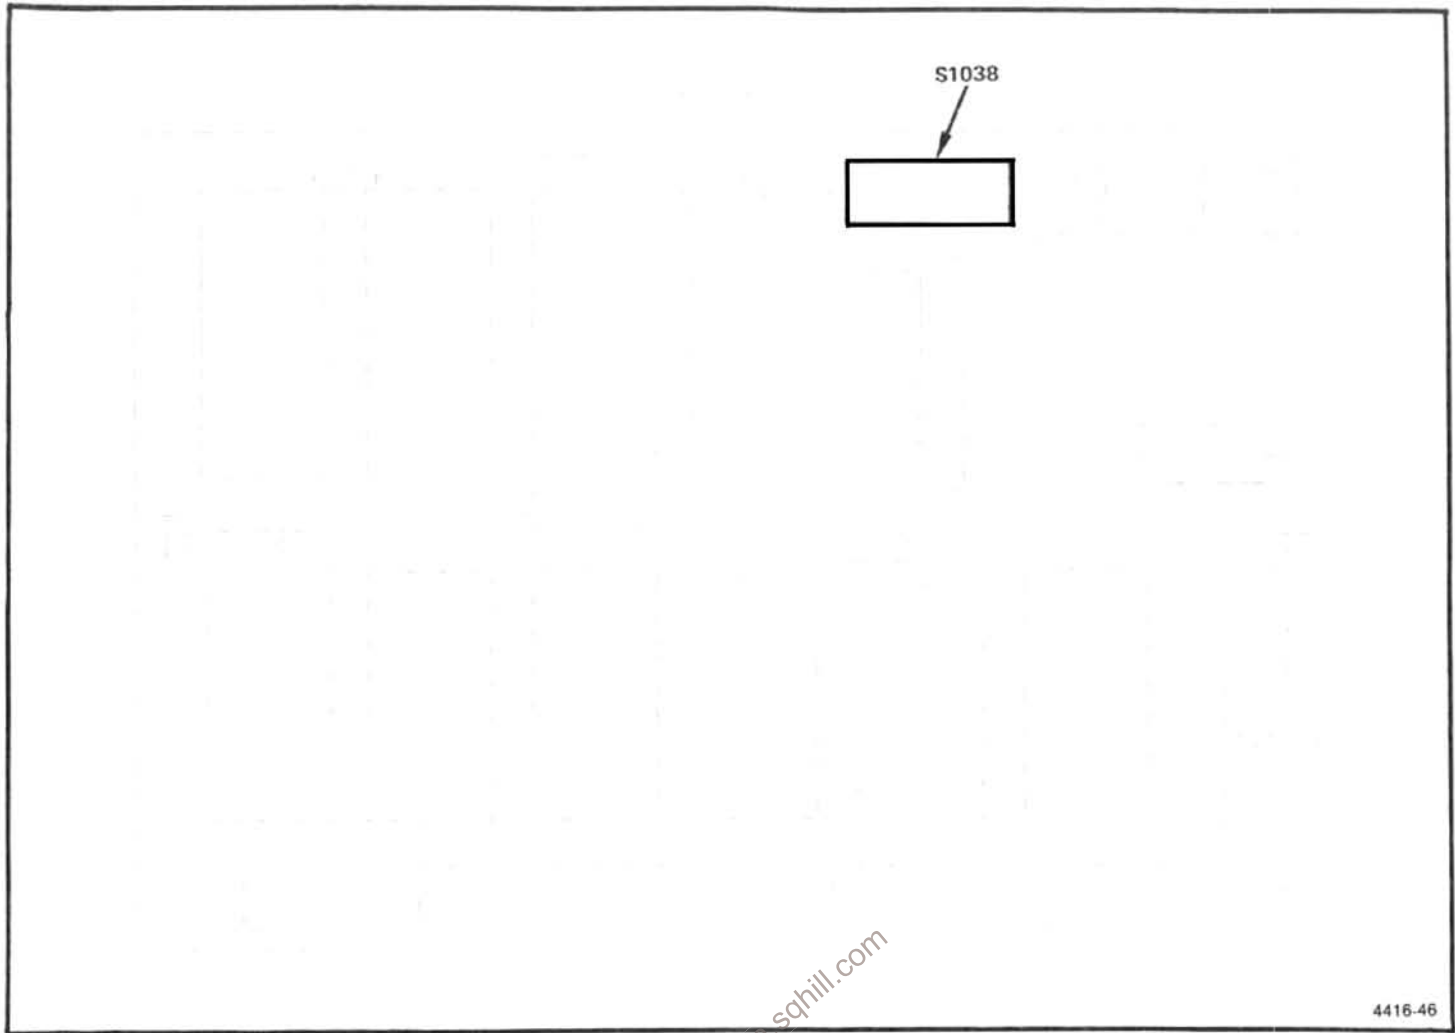

Figure 5-11. Location of Option switch S1038 on the Memory board.
d. Remove the shorting strap and set switch #3 of S1038 on the Memory board, (Figure 5-11) to the open (1) position. Set FREQ SPAN/DIV to 5 MHz. (This enables the calibration mode and diagnostic functions that are in the internal firmware.) Press <SHIFT> PULSE STRETCHER and select "0" (Overall System calibration) from the menu. Perform the calibration steps in the directory to the Phase Lock Synthesizer portion ("Connect a DVM to pin B on the Controlled Oscillator board and ground"), then press <SHIFT> to abort.
(1) If a "Calibration Step Cannot Be Completed" message is displayed, bypass the step, perform the other adjustments then return to the adjustment and try to bring the adjustment in range. If this doesn't take care of the problem, refer to; Troubleshooting the Frequency Control System procedure, in the Maintenance section.
(2) Disable the diagnostic mode by setting switch #3 of S1038 on the Memory board to the close (0) position.